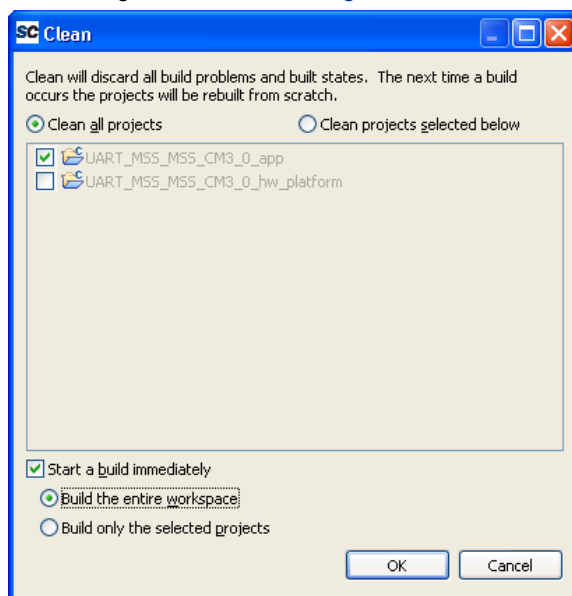

Figure 31 · Building a Clean Project
9. To build your project, select the project name in the **Project Explorer** tab and click **Project > Clean Project**. Enter the settings as shown in the Figure 31 and click **OK**.